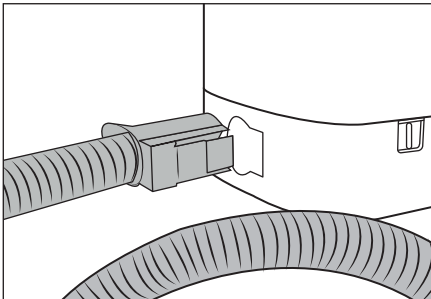

Fig. 2
- ◆ Insert the spray/suction hose **19** into the spray/suction hose connection **17** of the appliance until the release button **21** engages (see Fig. 2).